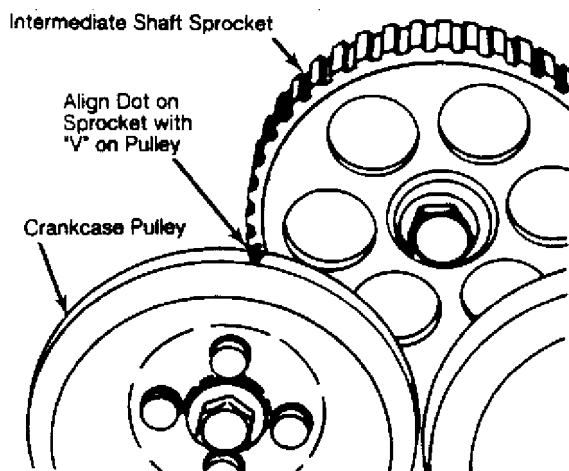

Fig. 3: Aligning Intermediate Shaft & Crankshaft
1) Set crankshaft at point just before TDC compression for No. 1 cylinder. Place timing belt on crankshaft and intermediate shaft sprockets. Install crankshaft pulley and tighten all 4 bolts. Align mark on crankshaft pulley with mark on intermediate shaft sprocket at TDC. See Fig. 3.